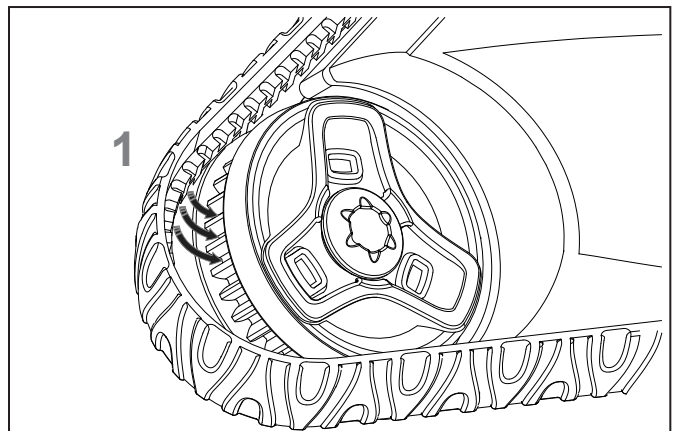

Figure 31. Position Track into Wheel Grooves
3. To install a new track, place the inside rib of the track into the groove in the first wheel (see Figure 31).